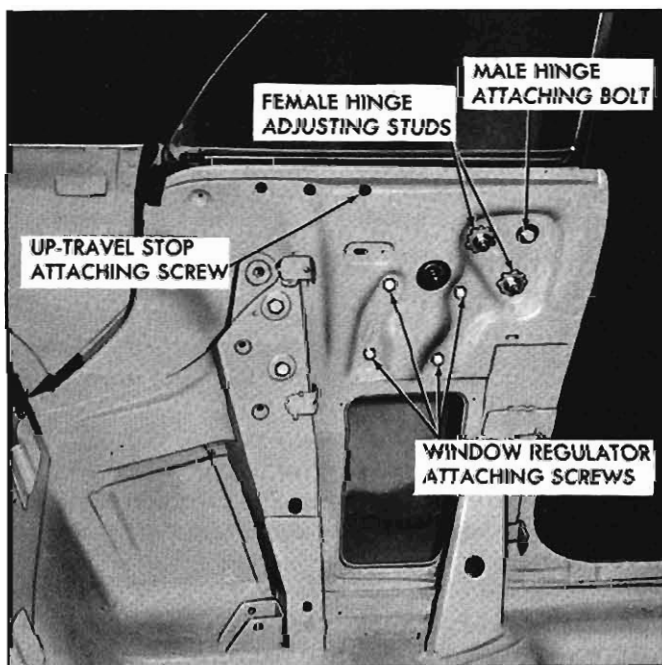

Fig. 32—Rear Quarter Hardware Attachment
2. Remove male hinge attaching bolt (fig. 32). Disengage window male hinge from female hinge plate; then raise window to disengage window lower sash channel cam from roller on window regulator lift arm and remove window.
1. To adjust the limit of the rear quarter window up-travel, loosen the up-travel stop attaching screw (fig. 32), then, operate window to desired position and tighten screw.
- a. "Up or Down" "Fore or Aft" Adjustment—Loosen male hinge attaching bolt and both adjusting stud nuts (fig. 32). Adjust window to desired position and tighten pivot bolt and stud nuts.
2. Remove regulator attaching screws (fig. 32). Disengage regulator lift arm roller from window lower sash channel and remove regulator assembly through access hole. To install regulator, reverse removal procedure.